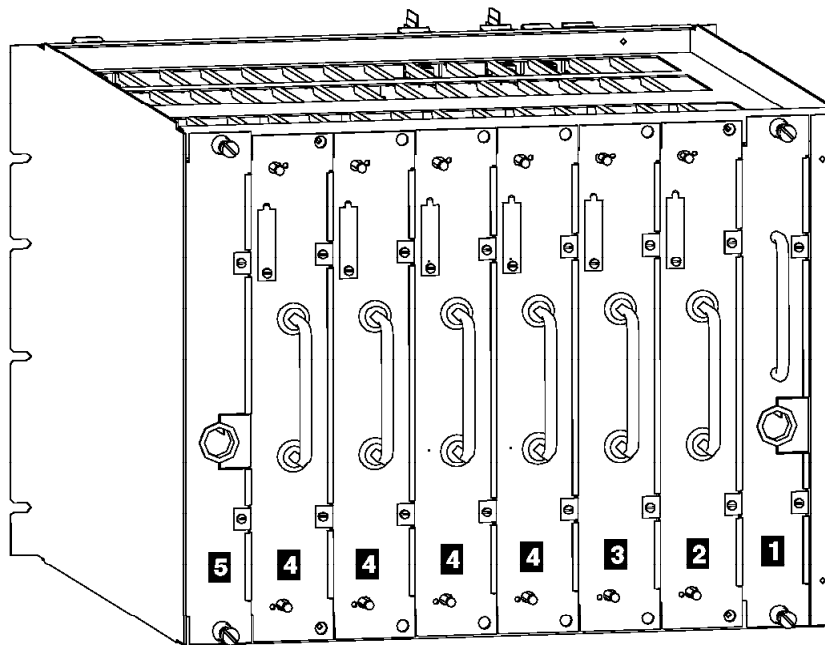

Figure 1. Basic Board 07G-A1 Locations (Processor Side, 3746-950 Front View)
- ___ 7. Locate the CBSP **3** cassette using Figure 1 and the labels on the doors.